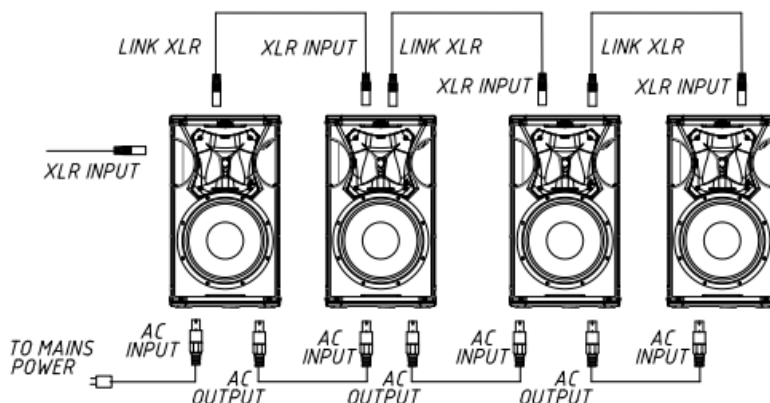

Fig. 3. Parallel connection for S12 (signal and mains)
- You can connect the S12 in parallel with a subwoofer. Please, follow the same parameters as explained in Figure 3, both for audio signals and mains.